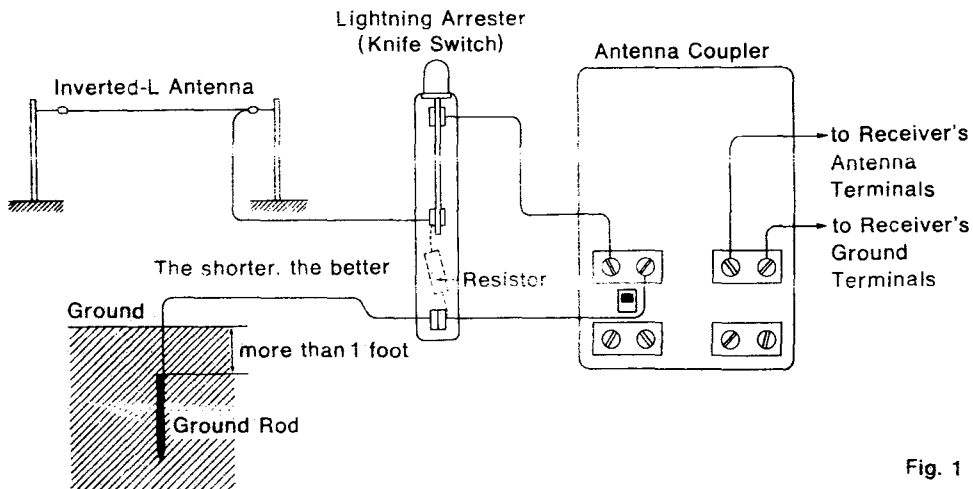

Fig. 1
- Connect the knife switch, as shown in Fig. 1. Place it in the up position to connect the antenna to the radio when listening and in the down position to connect the antenna to ground, when not listening, particularly during an electrical storm.